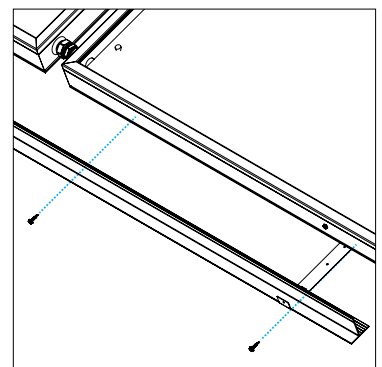

Figure 8. Collector mounting
1. The starting point for the installation is the storage tank front foot. Locate the tank centrally over at least two (2) rafters or trusses, with the front directly over a tile batten or purlin. The batten or purlin selected must be located at least 2.4m up from the lower edge of the roof and 1m down from the roof ridge line.
2. From the selected batten/purlin, measure 2m down the roof slope. This position will be the bottom edge of the collector mounting rail (*Figure 8*).
11. Place the second collector onto the collector mounting rail (*Figure 8*).
15. Fix the collector rail to the collectors with two (2) of the supplied self-drilling screws per collector into the groove in the rail (*Figure 8*).